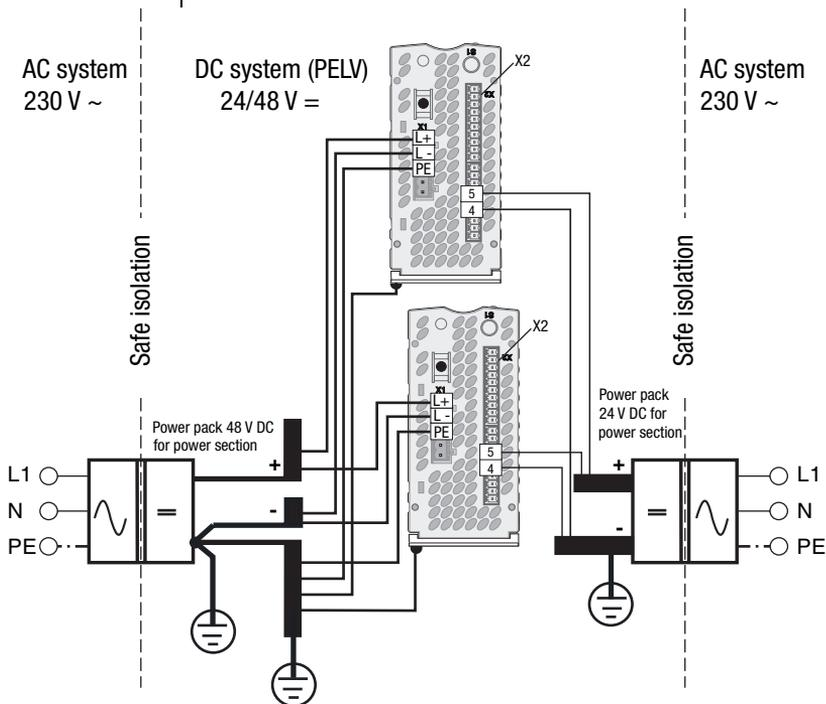

Figure 3.3 Connections of the DC network
- The (-) poles of the power packs should be earthed at the feed-in point, as shown in figure 3.3.